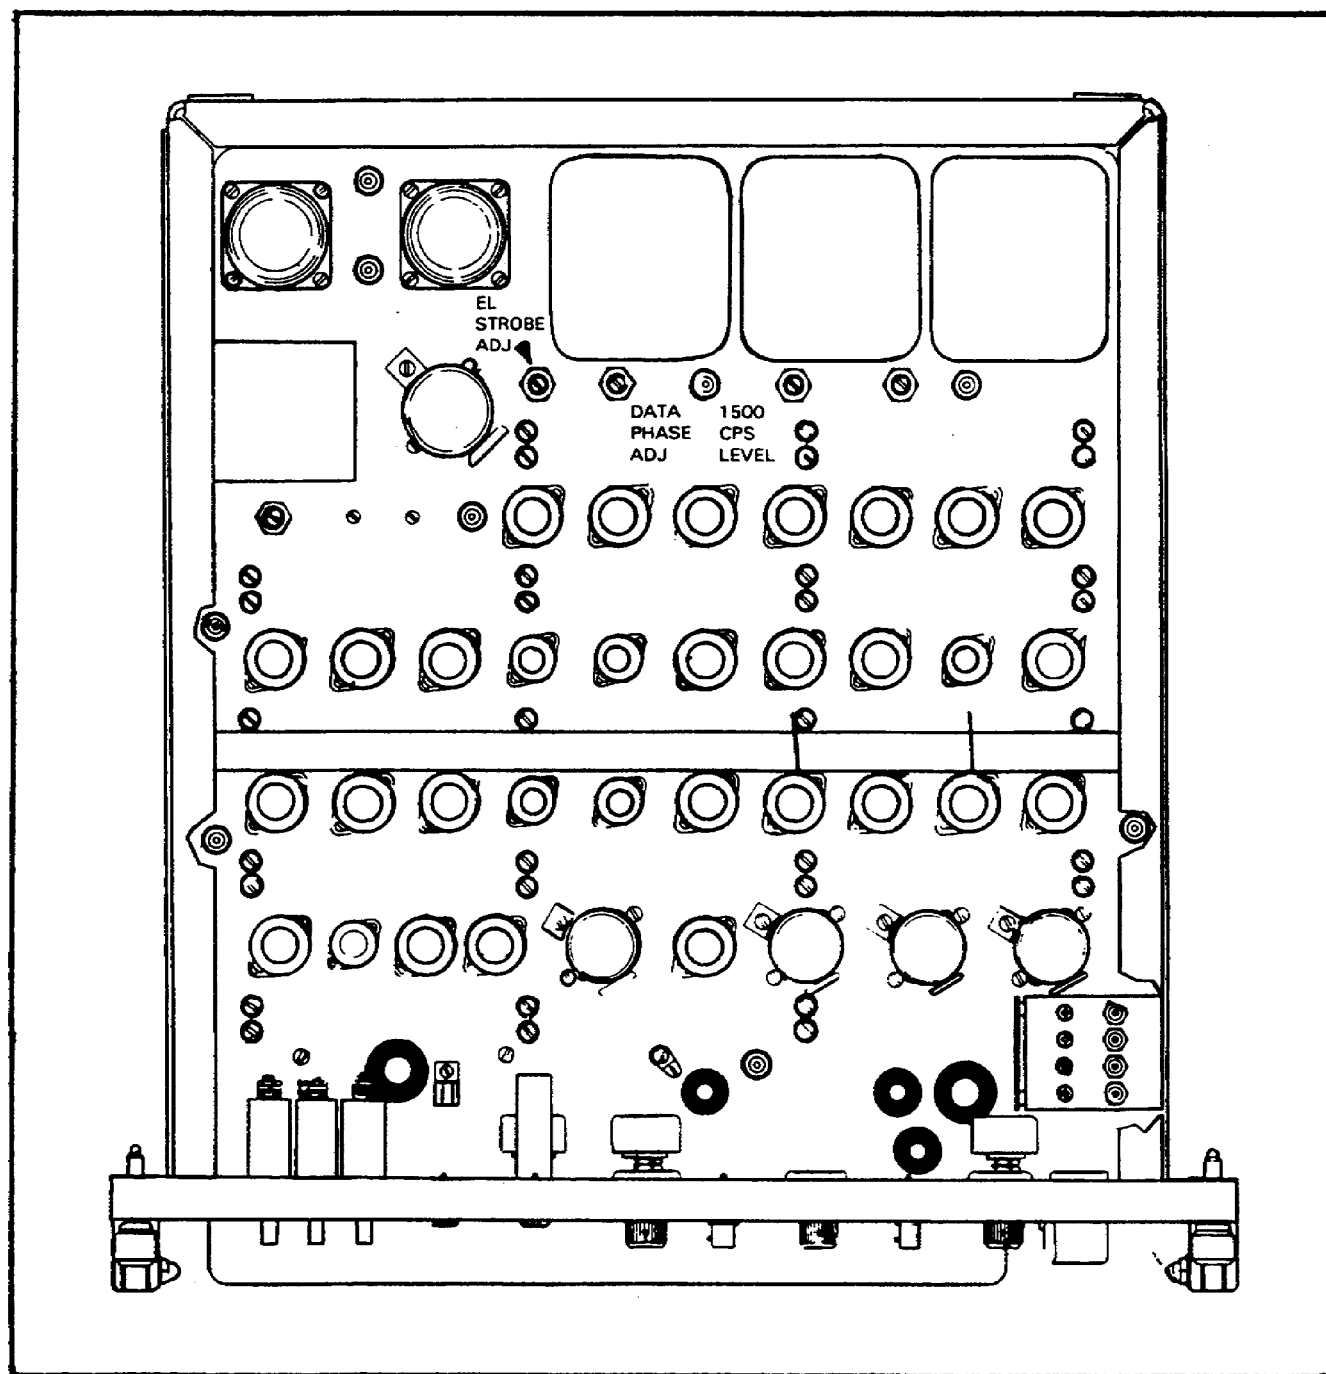

Figure 42. Computer navigational CP-338/FPN-33.
s. Locate the EL STROBE ADJ control R408. It is to the rear and to the left as you are looking down into computer navigational CP-338/FPN-33. (See Figure 42.)
- _____ EL STROBE ADJ control R408 (Figure 42)